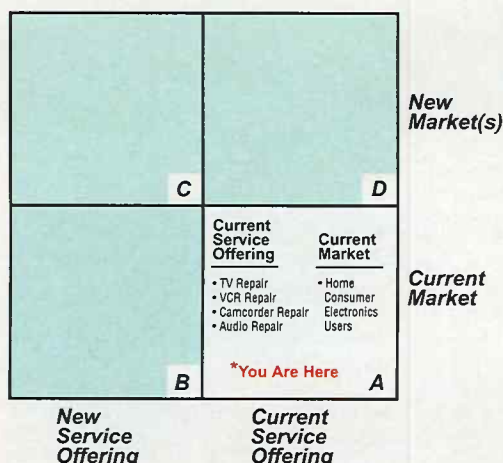

Fig. 2: Your "as-is" situation shows the services your business currently offers and who receives the services.
business currently offer, and (2) Who receives my services? If your business is like most Sencore News readers', quadrant A would be filled out as shown in Fig. 2.